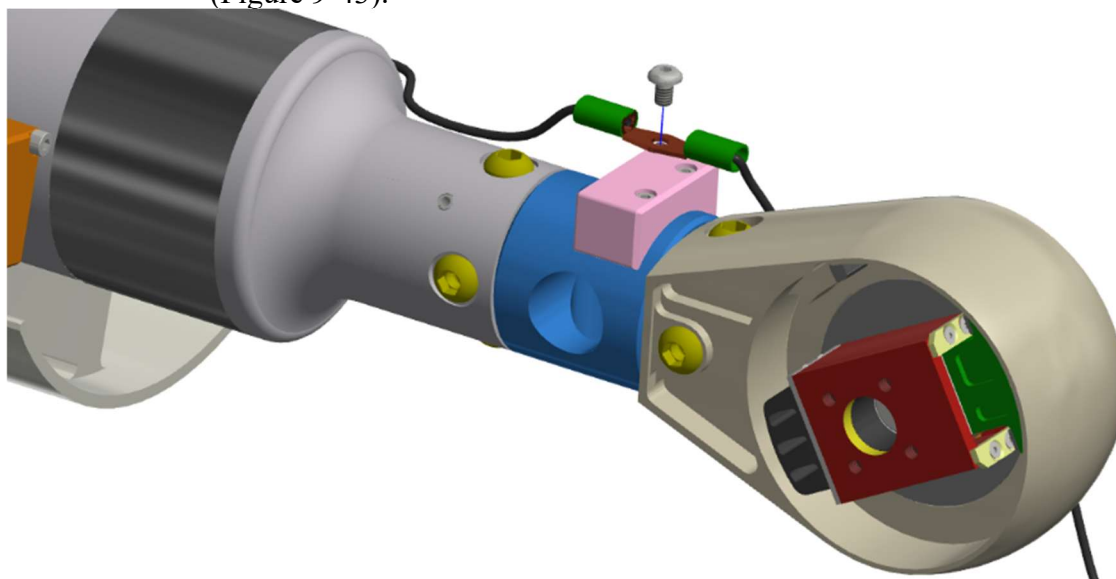

Figure 9-43. Attach the ground wires to the Femur Load Cell Strain Relief (474-5102)
9.3.11 Attach the ground wires to the Femur Load Cell Strain Relief (474-5102) (Figure 9-43).